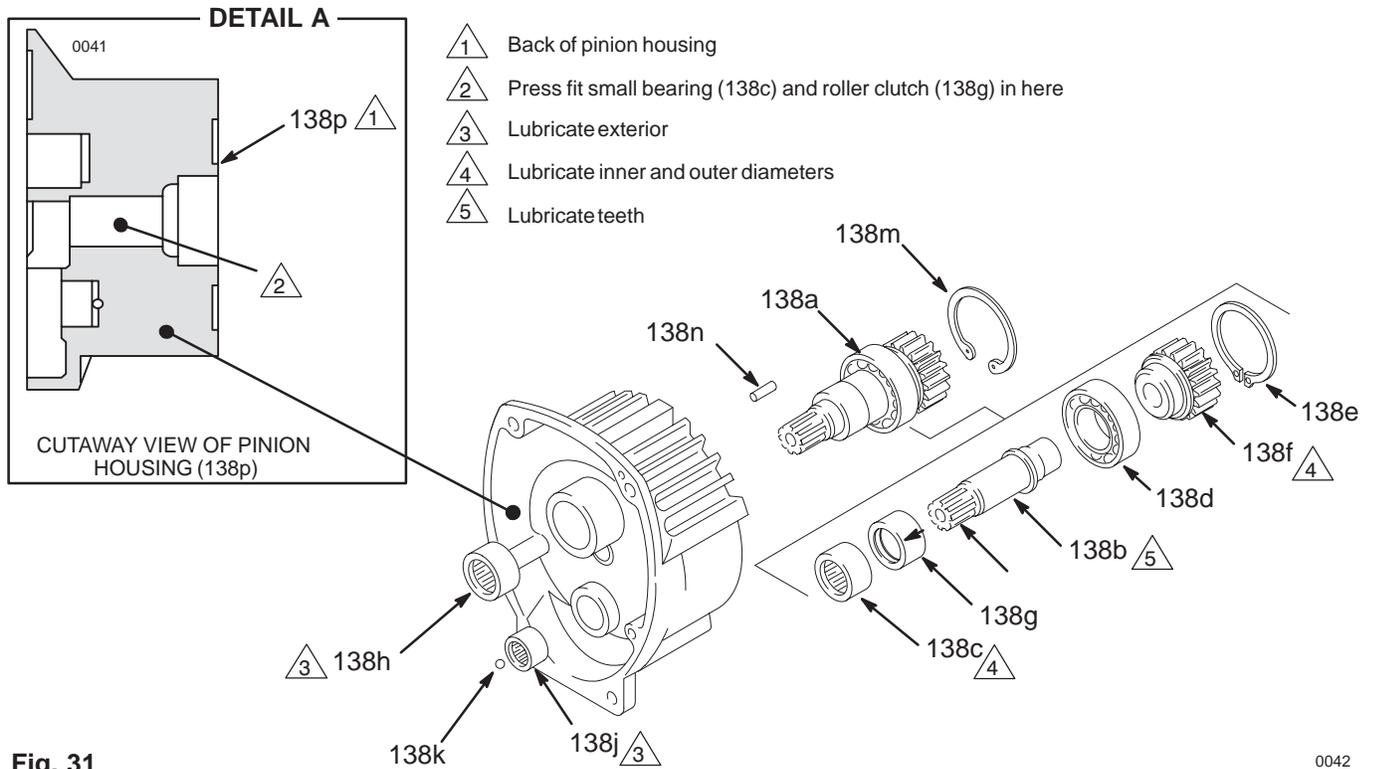

Fig. 31
NOTE: Refer to Fig. 31 except where noted.
4. **Using a hydraulic press**, place pieces of steel bar stock on the inner race of the large bearing (138d) and press the shaft through the hub and bearing. See Fig. 31.
5. Apply lubricant to the parts as shown in Fig. 31.